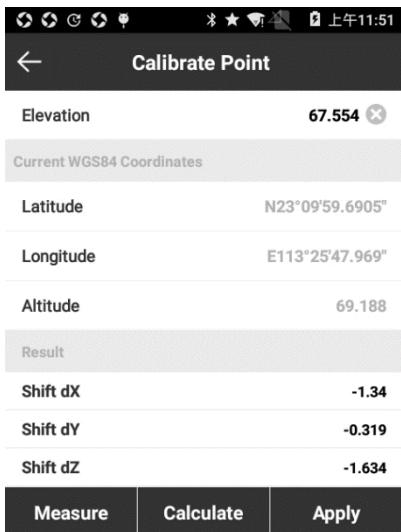
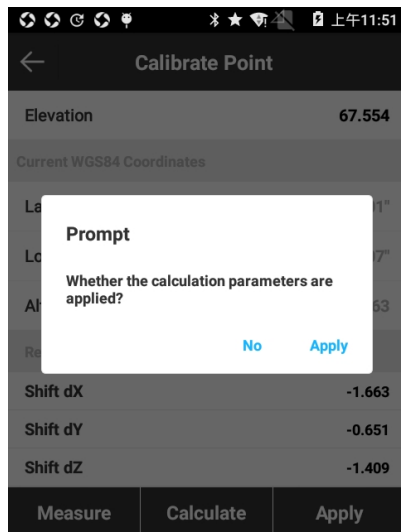
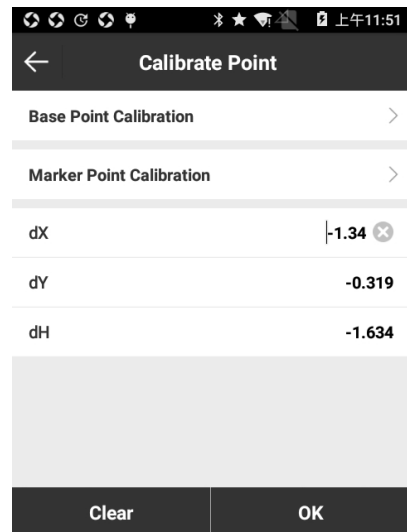

Figure 3.4-10
Figure 3.4-11
Figure 3.4-12
(2) Press [Calculate] as shown in Figure 3.4-10 to get calculate result. If the calculation result is in red font, there would pop up a prompt saying “High residuals error! Apply local offsets to current project?”. Press return key upper right and pops up prompt as shown in Figure 3.4-11, press [No] to return to Calibrate Point interface while press [Apply] to return to Calibrate Point interface and display calibration result as shown in Figure 3.4-12.